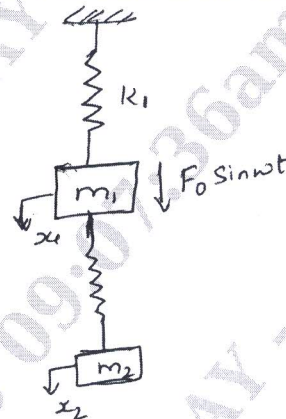

Fig.Q7(a)
- 7 a. Derive expressions for amplitudes of vibrations of the two masses shown in Fig.Q7(a).